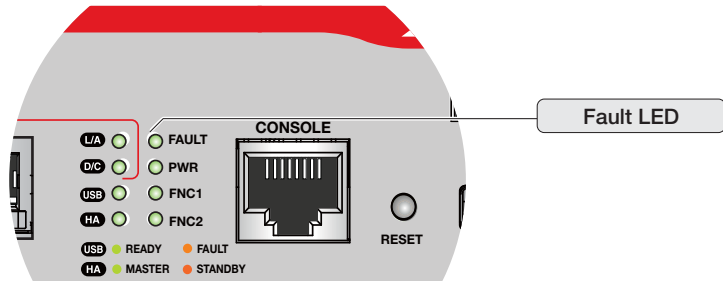

Figure 5. Fault LED
**Fault LED** The Fault LED reports the status of the router. The LED is shown in Figure 5.